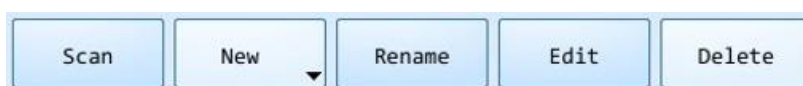

Figure 3.2c Experiment File Interface - File action bar
3. **File action bar:** consists of < **Scan** >, < **New** >, < **Rename** >, < **Edit** > and < **Delete** > five function keys, as shown in figure 3.2c.